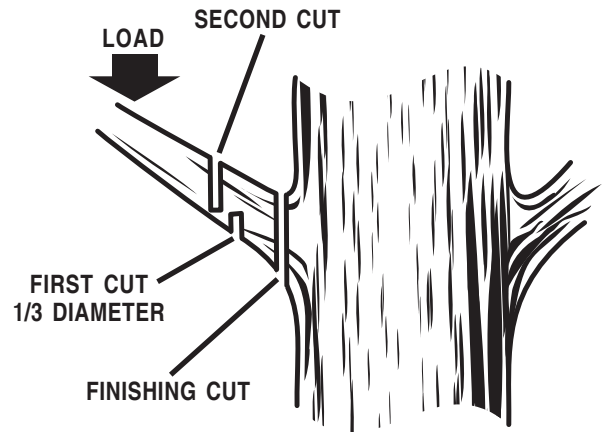

Fig. 39
- When pruning trees it is important not to make the flush cut next to the main limb or trunk until you have cut off the limb further out to reduce the weight. This prevents stripping the bark from the main member. *See Figure 39.*